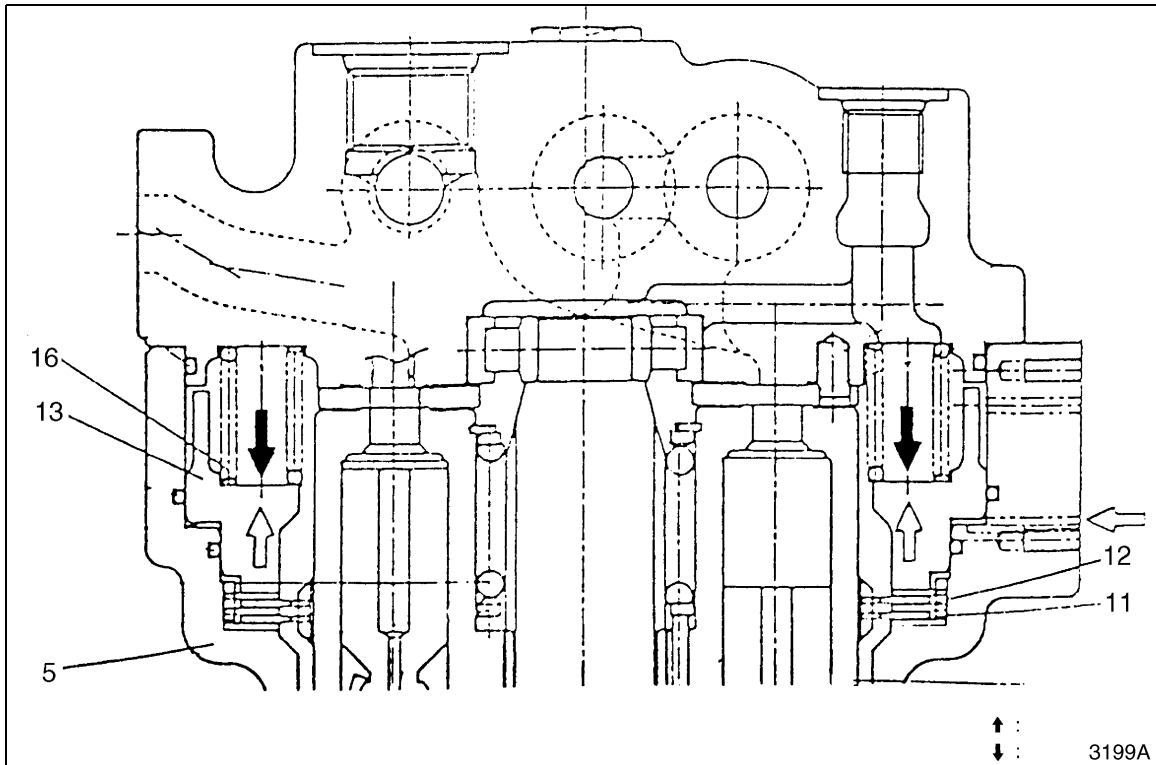

Figure 4
The swing brake is applied when the brake spring. (16, Figure 4) locks up the friction plate (11), split plate (12) and swing motor casing (301), preventing the motor drive shaft from turning. When hydraulic pressure is forced to the back side of the brake piston, the friction plate and swing motor casing are separated, releasing the brake.